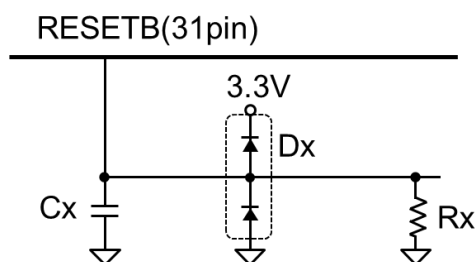

Figure 2-5 Example of an external circuit for the RESETB terminal
- An example of an external circuit for the RESETB terminal is shown in Figure 2-5, and an example of the circuit constants is shown in Table 2-2.